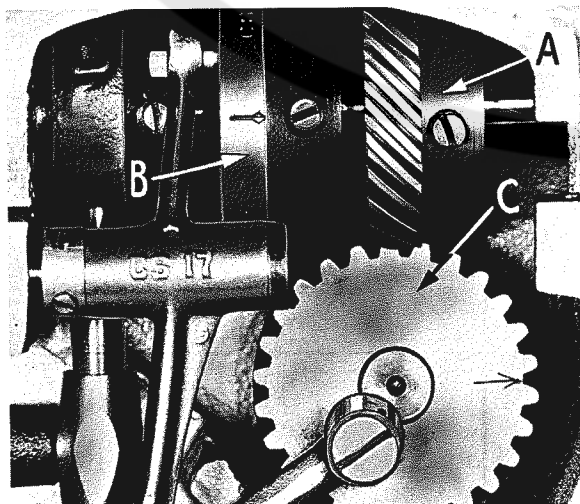
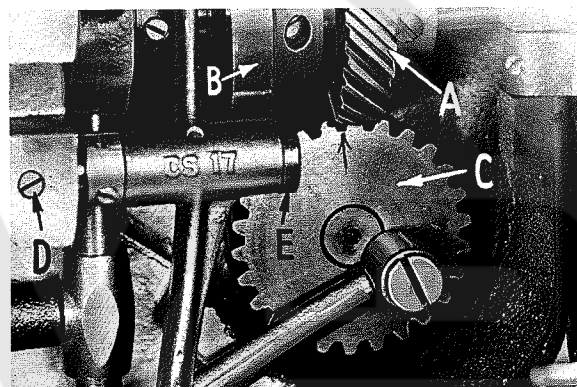
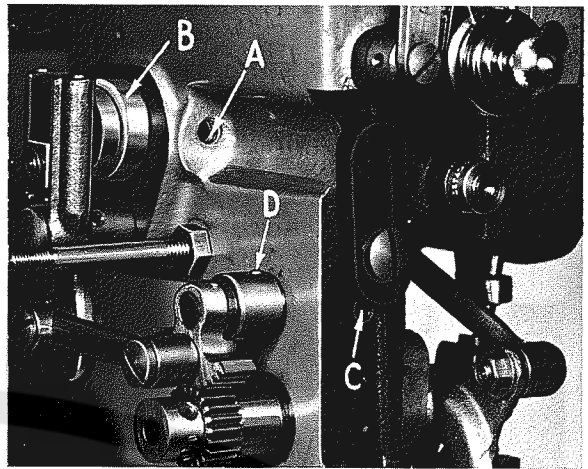

Fig. 5
Fig. 4
Fig. 6
The main shaft drive gear (A, Fig. 4) and the looper cam (B) are spotted on the main shaft. Therefore, the arrow on the hub of the looper cam and on the right side of the drive gear should be in line. The timing is correct if the arrow on gear (C) points to the line on the left side of drive gear (A), or as the handwheel is turned in the operating direction this same arrow is in line with the arrow on the right side of gear (A). To check for proper timing, open front cover and turn handwheel in operating direction until the spot screw (the second screw around as the handwheel is turned in operating direction) in the looper cam (B, Fig. 5) is toward the front. The arrow on the cam will then be in a horizontal position pointing to the right. At this time the arrow on gear (C) should coincide with the arrow on the cam at a position pointing slightly above horizontal as in Fig. 5. If adjustment is necessary, loosen the two screws in drive gear (A) and slide gear to the right until the gears no longer
mesh. Turn handwheel in operating direction until the spot in looper cam is to the front. Do not turn the handwheel after the spot is in this position. Now, turn gear (C) until the arrow points to the right and is slightly above a horizontal position. Slide drive gear (A) to the left so the gear teeth mesh and the spot screw lines up with the spot on the main shaft. Retighten the screws. Now, check alignment of the arrows on gears (A and C, Fig. 4). If the arrows do not line up, slide gear (A) to the right once again and turn gear (C) to the left or right as required. Reposition gear (A) so spot screw lines up with the spot on the main shaft and again check the arrow alignment. Repeat this procedure until arrows line up and the spot screw is in line with spot on main shaft, then tighten spot screw and set the screw in drive gear (A).
It may also be necessary to remove any play or bind that may have developed between gears (A and C, Fig. 5) as a result of normal wear or replacement. To remove any bind or excess play, loosen set screw (A, Fig. 6) and turn bushing (B) in the required direction by inserting a screwdriver in the oil hole on top of the shaft. Tighten screw. Turn the handwheel in operating direction to be sure the machine does not bind.
To adjust the looper spreader mechanism to the right or left, loosen the set screw (D, Fig. 4) and slide the stud (E) in the required direction. Retighten the screw (D). To adjust the looper spreader